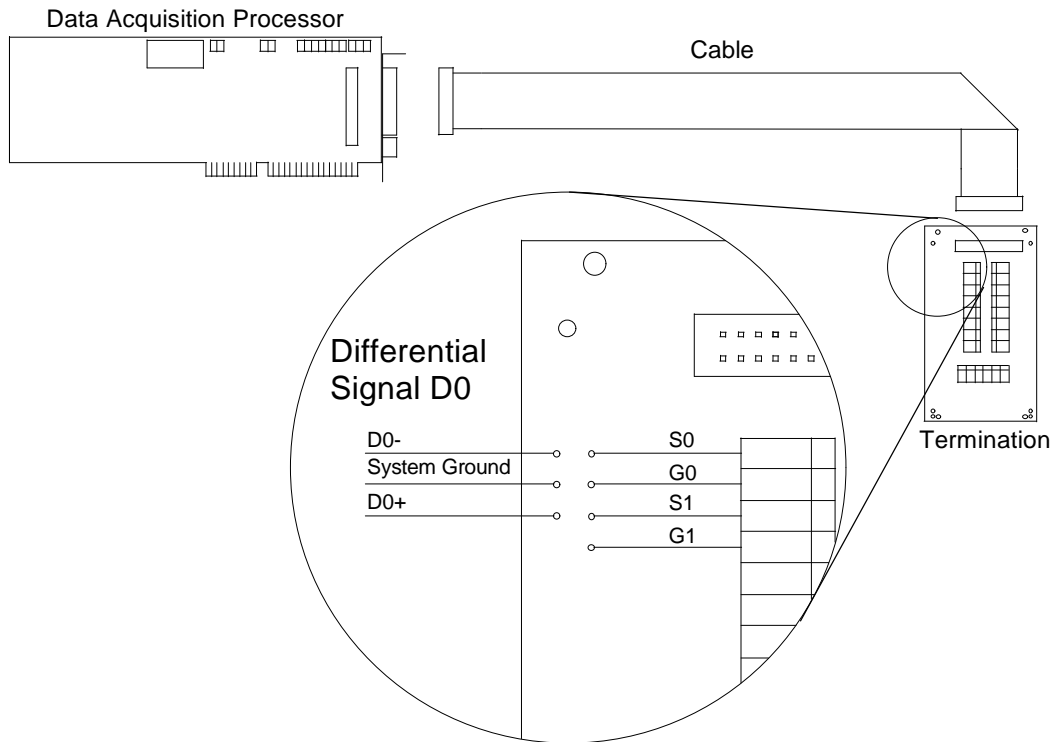

Figure 1 : Configuring Data Acquisition Processor Differential Inputs
Configuring a differential input signal to use hardware channel D0 is shown in Figure 1. Either of the two single-ended ground terminals, G0 or G1, may be used as the differential signal system ground.
The system ground should only be connected to the appropriate analog input ground, G0 or G1, as shown in Figure 1. Placing the signal ground into any of the other Data Acquisition Processor grounds, such as analog ground (AG), can cause ground loops which may degrade the quality of the input signal.